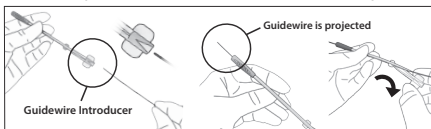
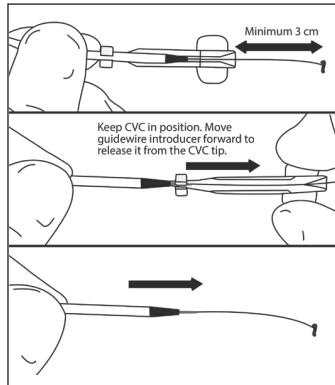

Figure 5
Figure 7
- Use tissue dilator to enlarge tissue tract to the vein as required. Follow the angle of the guidewire slowly through the skin. Where guidewire introducer is attached to tip of dilator, insert proximal end of the guidewire along the groove of guidewire introducer into dilator. Confirm guidewire passes through dilator (refer to Figure 5). Remove the guidewire introducer similar as described for catheter on Figure 7.
- Thread tip of stylet over guidewire. Sufficient guidewire length must remain exposed at hub end of catheter to maintain a firm grip on guidewire. Use guidewire introducer similar as described for dilator on Figure 5.
Guidewire Introducer removal (refer to Figure 7):